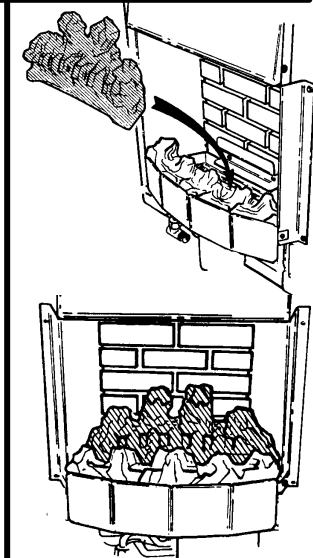

Fig. 28 Rear base coal installation
10.3 Place the rear base coal in the burner compartment behind the front coal. It should rest on the ledge at the back of the burner compartment and its rear face should touch the rear ceramic wall (See figure 28)